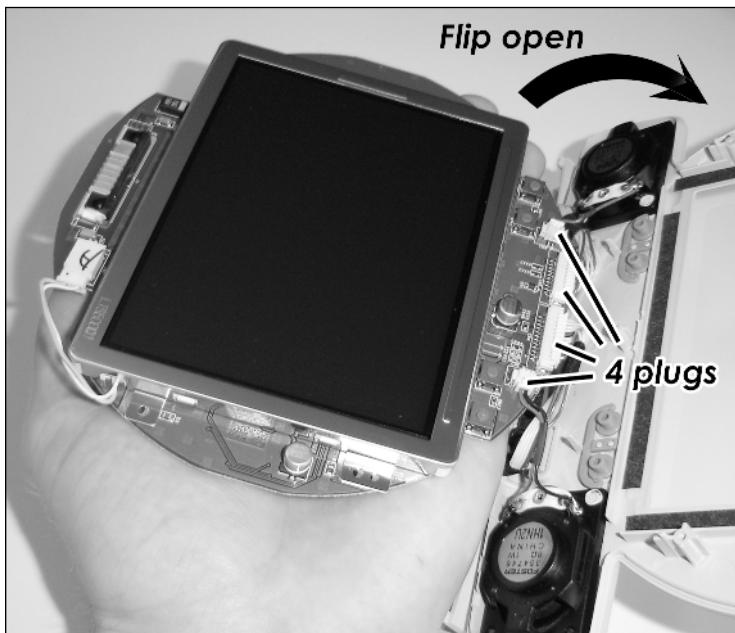

FIGURE 4-22: How to hold the unit, and which plugs to remove.
4. Carefully flip the unit over, holding the loosened circuit board in your hand as shown in Figure 4-22. The screen is now loose and you'll want to avoid moving it around in order to protect the LCD's ribbon cable. Fold over the front plastic casing and then detach the four cable plugs, as shown in Figure 4-22.